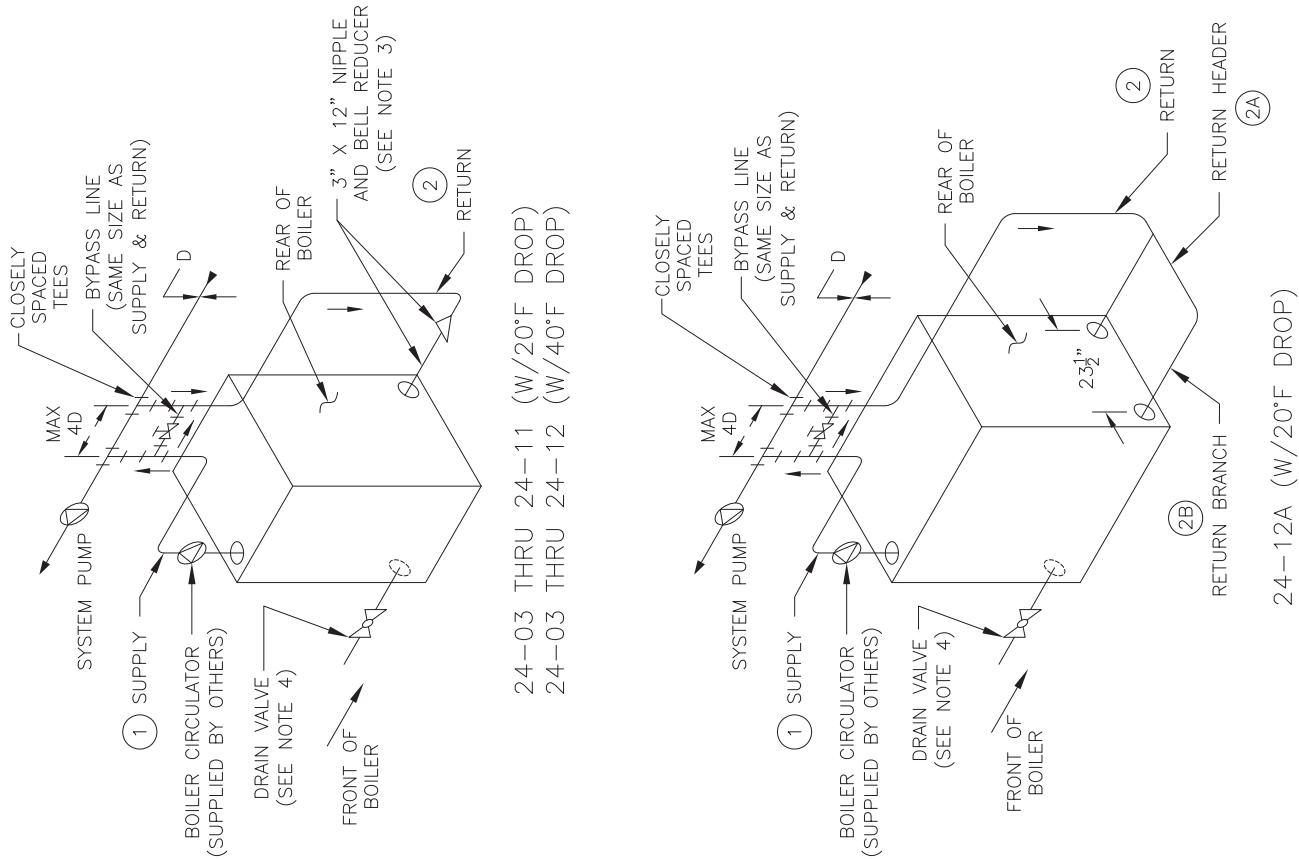

Figure 29: Series 24 Minimum Piping - Primary Secondary/with Bypass - Water Boiler
- ii. If minimum return water temperature cannot be maintained at 135°F or the temperature differential across the system varies, a blend pump is recommended as a minimum to help protect the boiler from flue gas condensation and/or thermal shock. See piping details in Figure 28. Primary secondary piping with a by-pass is an alternate to the blend pump method and is shown in Figure 29.